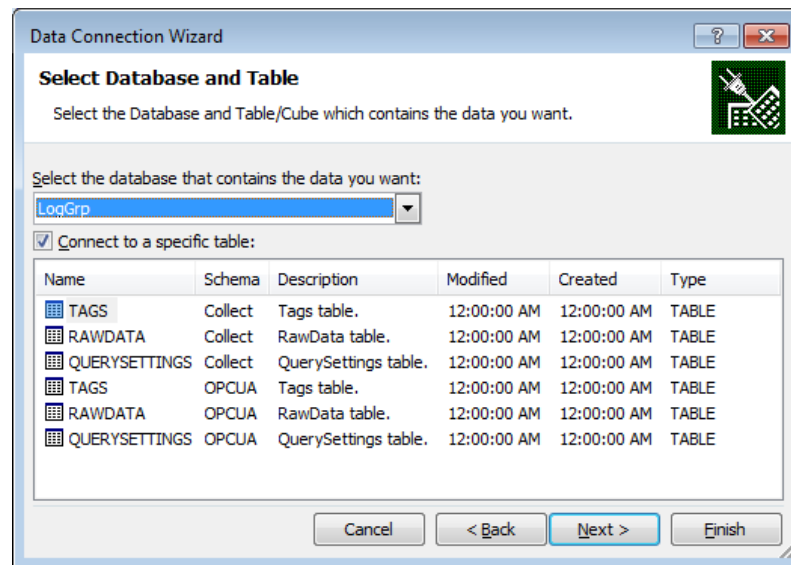

Figure LA.3 – Selecting a Table
7. In the dialog box that appears, choose the database that contains the data. In this case, it's **LogGrp**. A list of tables appears as shown in Figure LA.3.